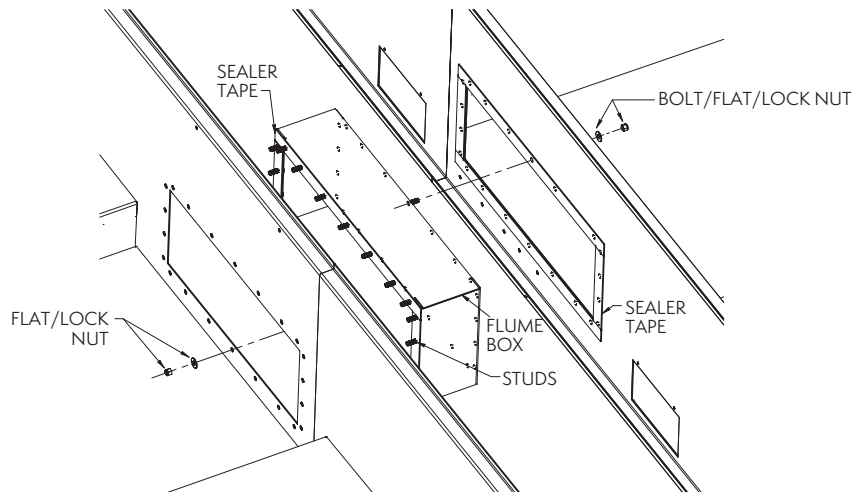

Figure 10 – Flume Box Detail
6. Align the bolt holes in the equalizer flume and the equalizer opening with drift pins, while drawing the second bottom section against the flanged connection (**Figure 10**).